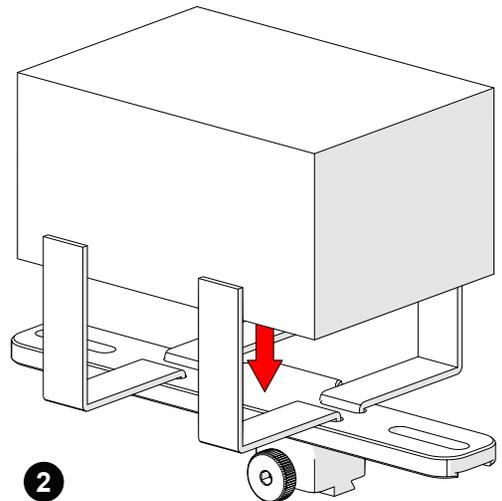

Fig. 46 - Place preamp and wrap velcro
2. Centre and place the preamp on the bracket wrapping the velcro around the preamp (Fig. 46).